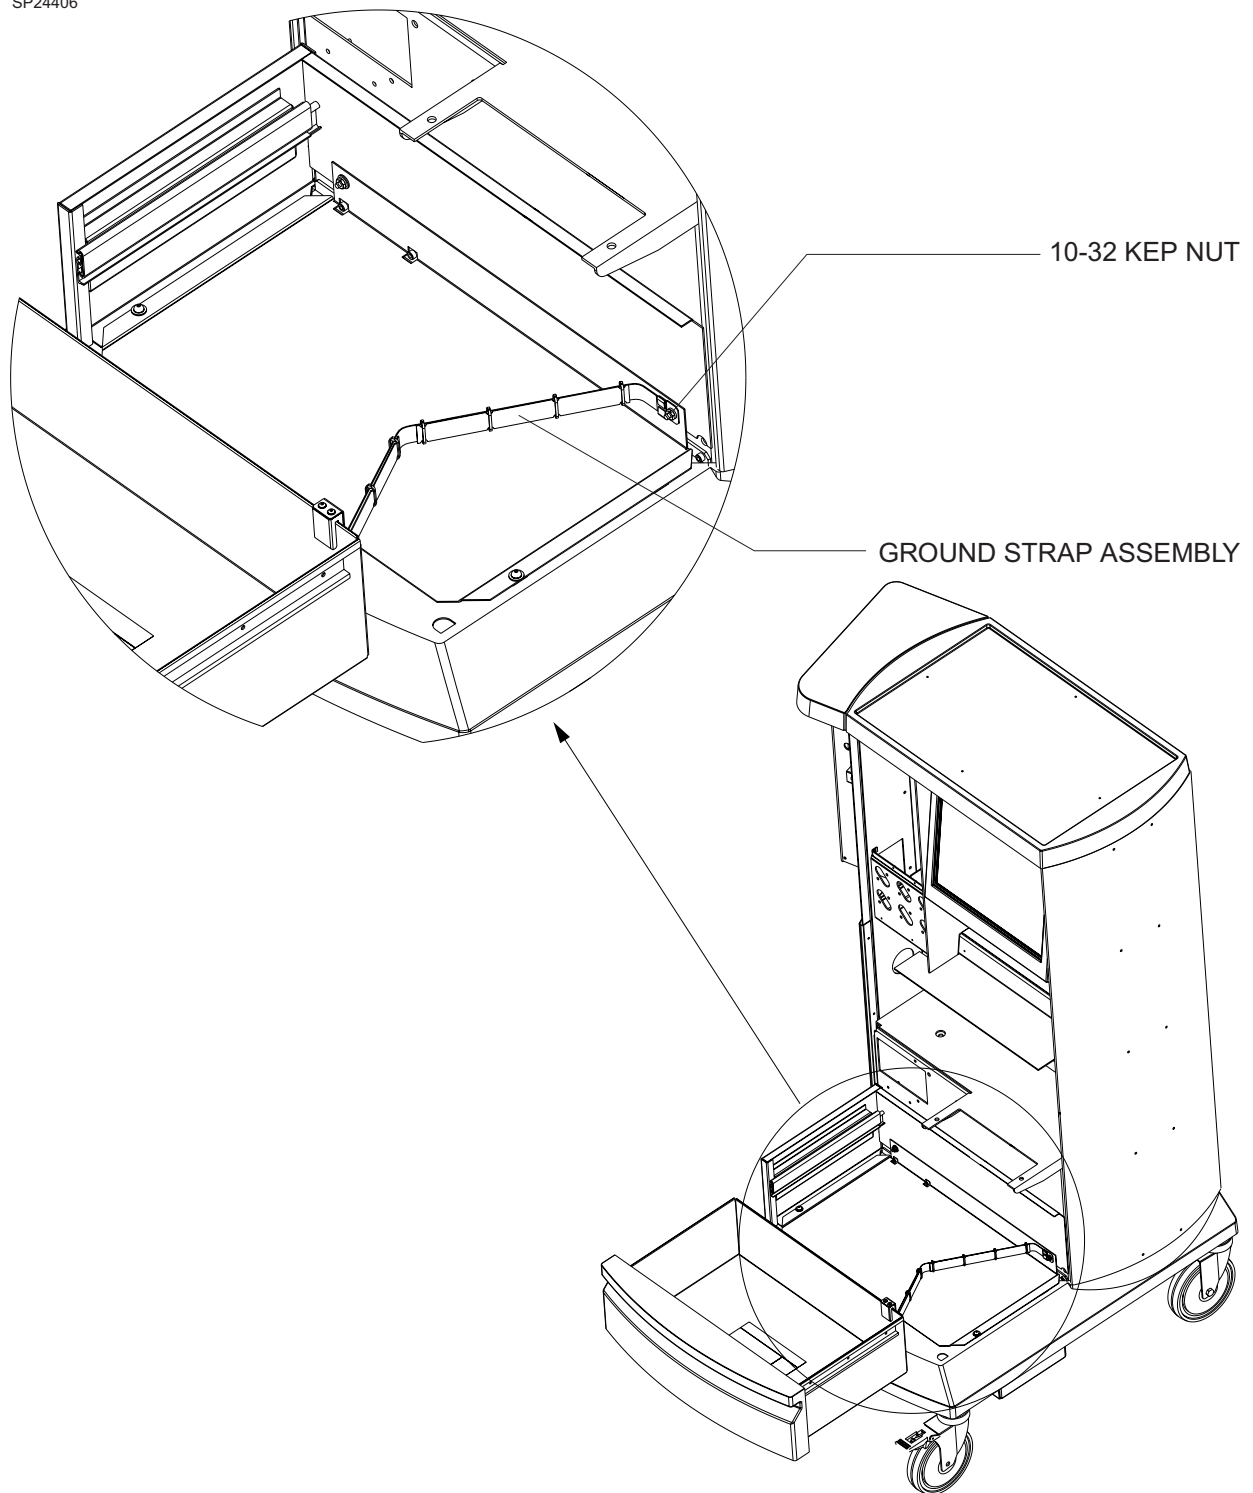

FIGURE 6. Ground Strap Installation
- 2.8 Attach one end of the ground strap assembly to the right rear stud projecting through the battery shield, and secure it with a 10-32 Kep nut. See Figure 6.